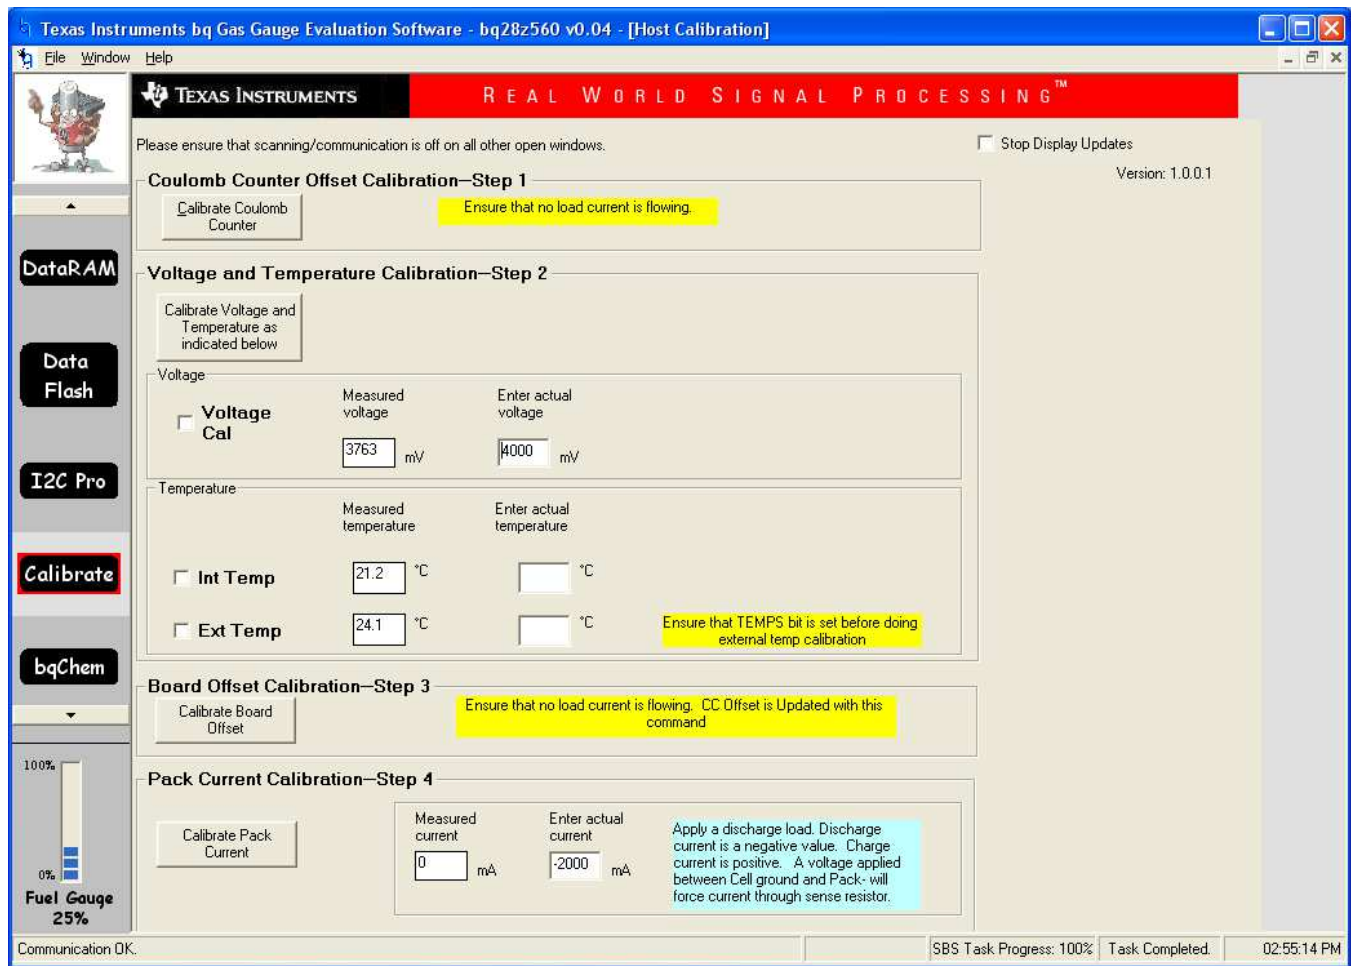

Figure 9. Calibration Screen
1. Select desired calibration types (Figure 9).